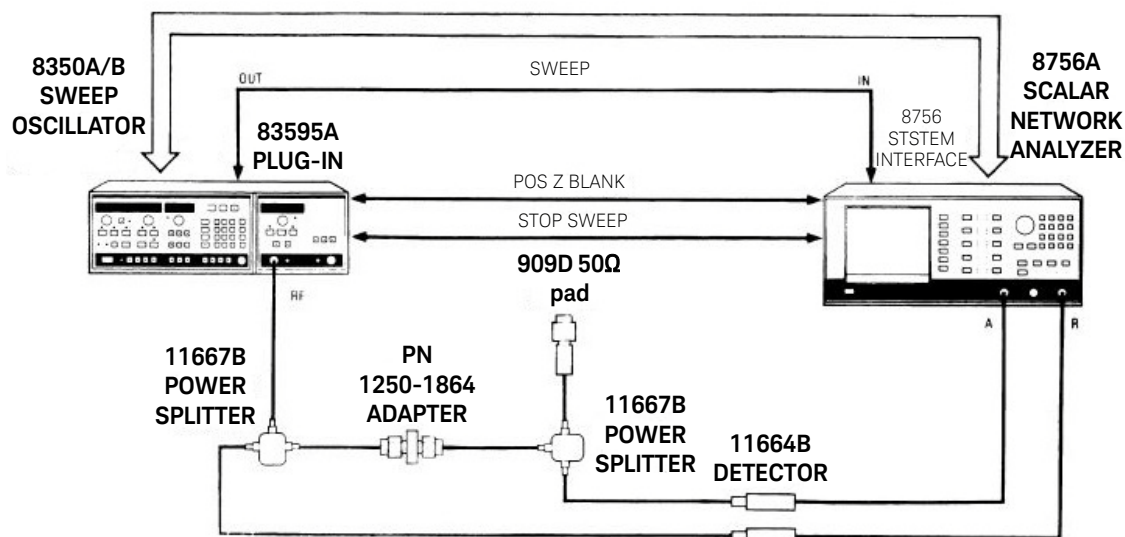

Figure 6 Output tracking test setup
- 1 Connect equipment as show in **Figure 6**. Press [PRESET] on the Keysight 8756A to preset both the Keysight 8756A and the Keysight 8350B (this will also turn the Keysight 8350B [MOD] on, and set the sweep rate to 200 ms). Allow 30 minutes warm-up.